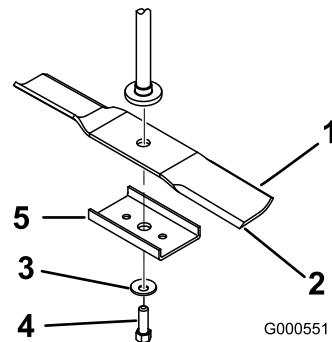

Figure 45
Hold the blade end using a rag or thickly-padded glove. Remove the blade bolt, curved washer, blade stiffener (42 inch models only), and blade from the spindle shaft (Figure 45).
1. Install the blade onto the spindle shaft (Figure 45).
2. Install the blade stiffener (42 inch models only), the curved washer (cupped side toward the blade) and the blade bolt (Figure 45).